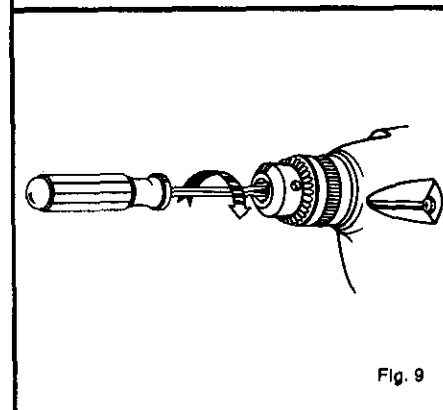

Fig. 9
4. Open the chuck jaws and remove the chuck screw by turning it in a clockwise direction. See Figure 9. **NOTE:** The chuck screw has left hand threads.